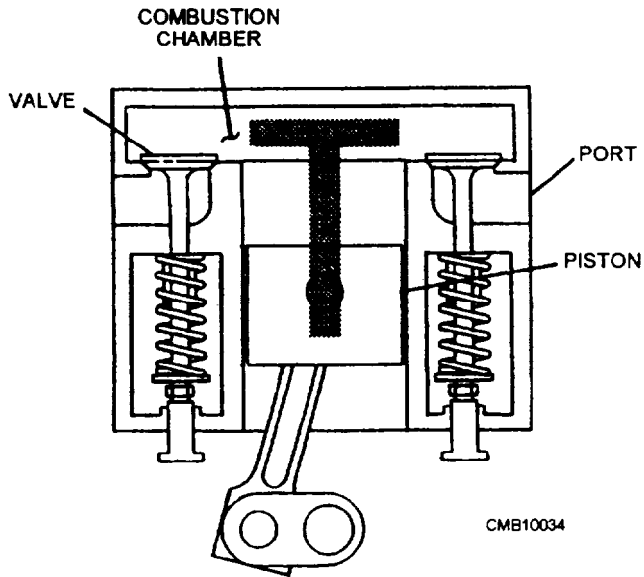

Figure 2-14.—T-head engine.
- **T-HEAD** (fig. 2-14)—The intake and the exhaust valves are located on opposite sides of the cylinder in the engine block, each requires their own camshaft.